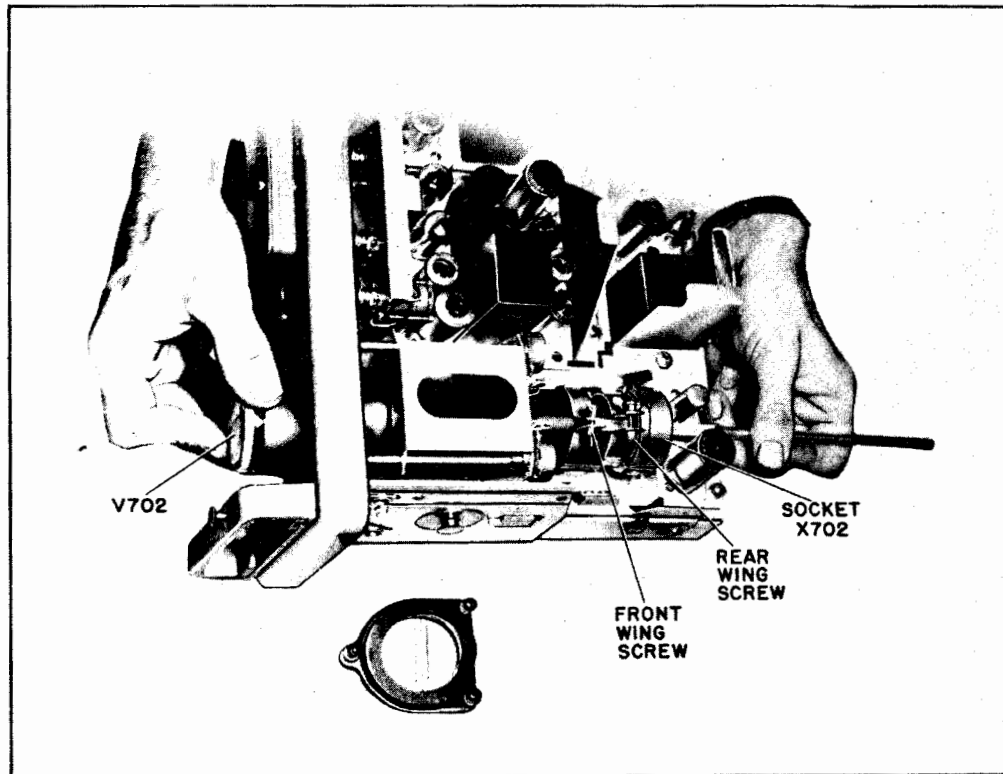

Figure 5-5. Removal of Cathode-ray Tube from Tuning Monitor
3. **SCREW CLAMP.**—**WARNING: JUMPER CABLE SHOULD NOT BE CONNECTED.** See Figure 5-5. Unscrew rear thumbscrew of cathode-ray tube socket, remove front window on panel, and through hole in socket, push tube forward through hole in front panel. Replace tube, tighten thumbscrew and replace panel window. Front thumbscrew may have to be loosened to rotate tube so image lines on tube are parallel to engraved lines on window.